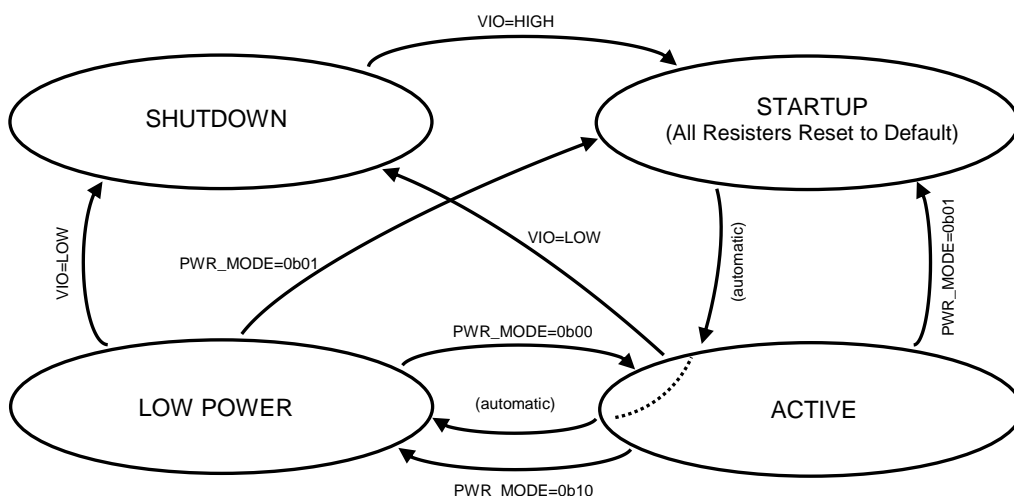

Figure 4. Slave State Diagram
- Figure 4, 5 and Table 4 describes the RFASWD658FTF03 has four operating states.
The RFASWD658FTF03 has four operating states, that are ACTIVE, SHUTDOWN, STATUP and LOW POWER. The transitions between these four states are set writing the PWR_MODE register or VIO as shown in Figure 4. The internal circuit operations in each operating state are shown in Table 4.